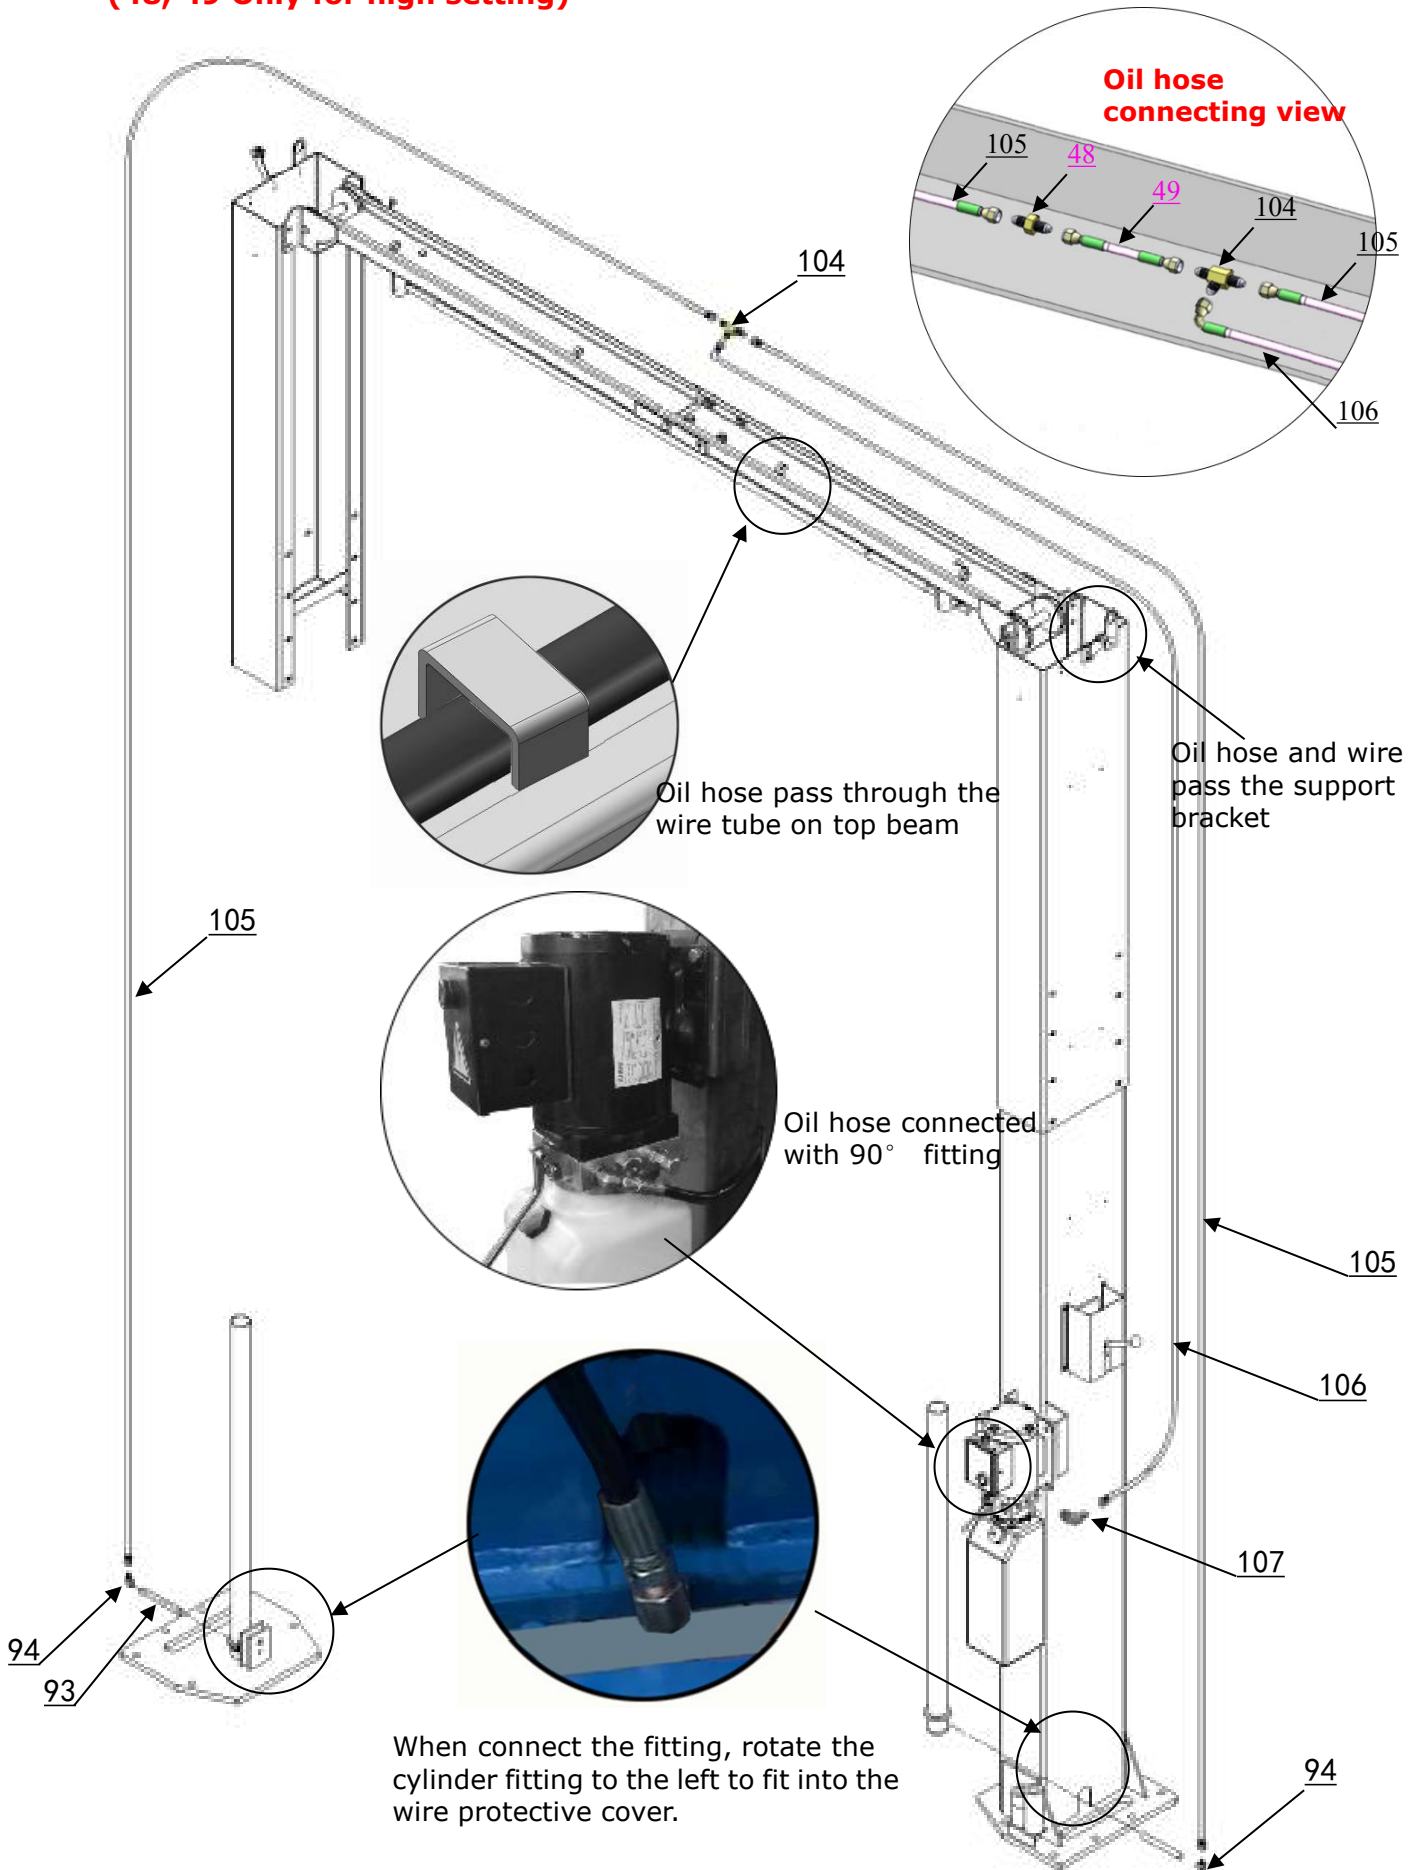

Fig. 33
N. Install oil hose (See Fig. 33)